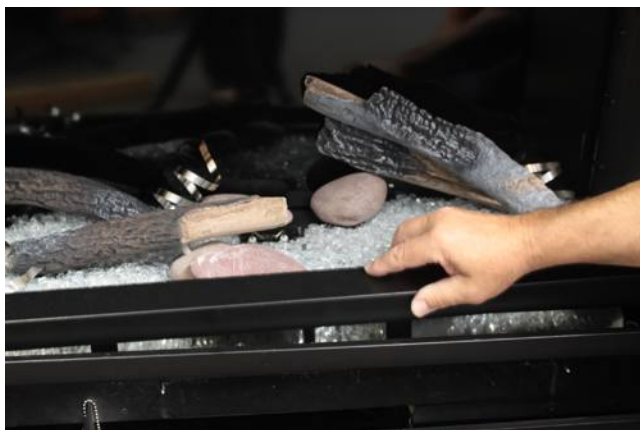

Figure 105
3. The control module is in the lower front corner of the fireplace bottom. It is secured to the fireplace with Velcro. The gas control and accent light wiring is routed through the lower right side opening to the gas valve and accent light wire connections in the firebox. The 120V power cord is routed through the lower right side opening and plugged into the Junction Box receptacle. **See Figure 105.**